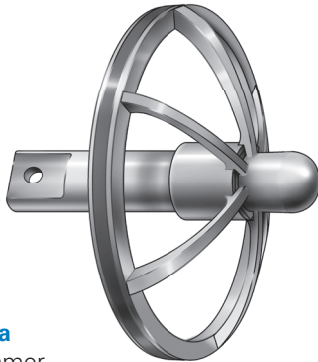

Figure 1a
- 1) **Pilot-Tip (315-25-11/12/13/14/15)** (Figure 1a)